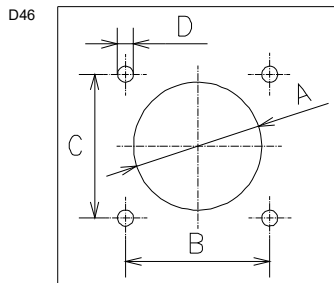
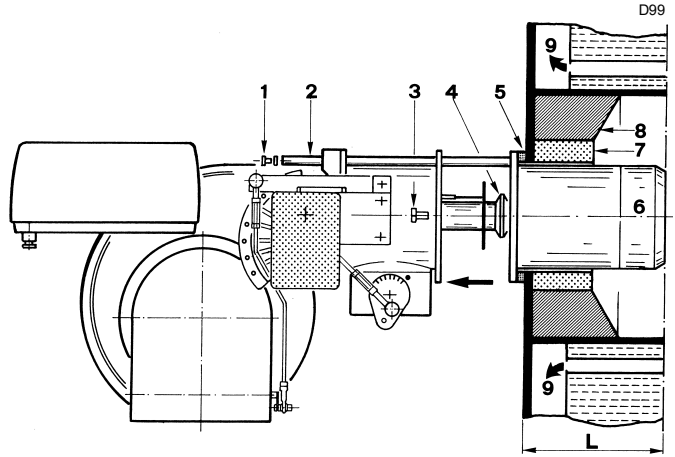

Fig. 11
Fig. 12
Pierce the closing plate of the combustion chamber, as in Fig. 11. The position of the threaded holes can be marked using the thermal insulation screen supplied with the burner.
For boilers with front flue passes 9)(Fig. 12 a pag. 18), or flame inversion chamber, a protection in refractory material 7) must be inserted between the boiler fettling 8) and the blast tube 6).
- Remove blast tube 6)(Fig. 12) from the burner as follows:
- Fix the blast tube 6) to the boiler plate (Fig. 11 a pag. 17), inserting the supplied insulating flange gasket 5)(Fig. 12). Use the 4 screws, also supplied, after protecting their thread with an anti-locking product.
- Refit the burner on slide bars 2)(Fig. 12), refit screws 1) on slide bars and fasten the burner to the blast tube using screws 3).